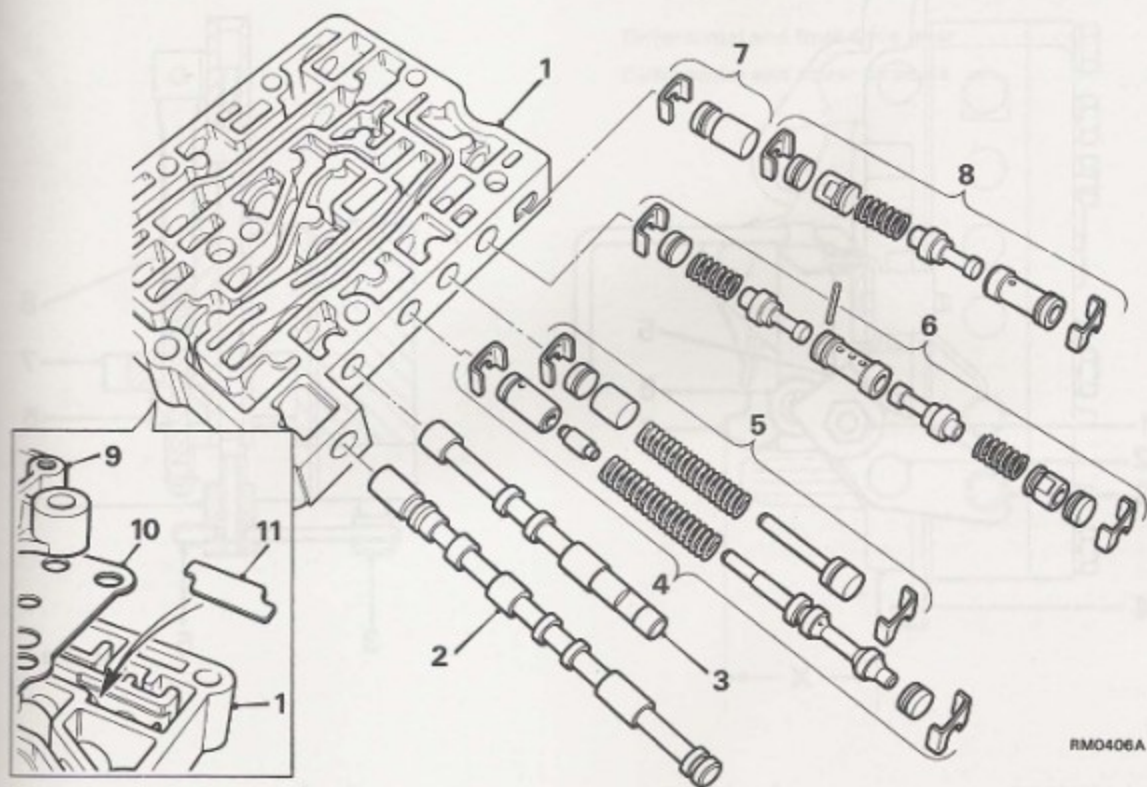

Fig. 10
11. Assemble the valves in the valve block and pipe chest as shown in Figs. 10 and 11.